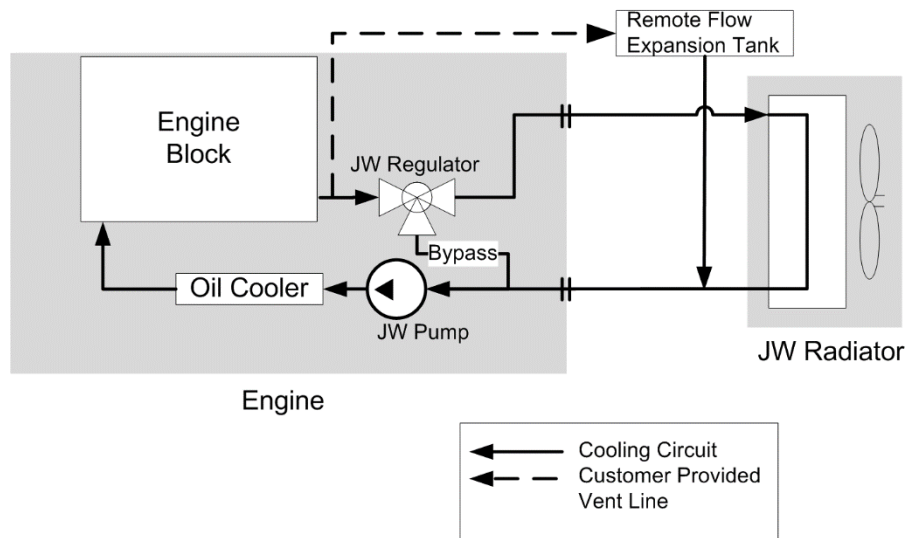

Figure 37: G3406 NA cooling system schematic.
- G3406 NA, (Figure 37 on Page 52).